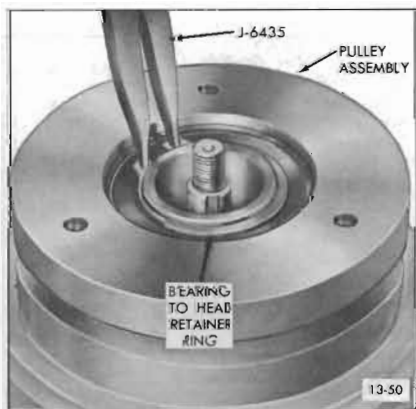

Figure 13-50—Removing or Installing Bearing to Head Retainer Ring
2. Using No. 26 Truarc Pliers (J-6435) take out bearing to head retainer ring (see Figure 13-50).
5. Lock pulley assembly in position with bearing to head retainer ring (flat side of retainer ring downward) using No. 26 Truarc Pliers (J-6435). See Figure 13-50.